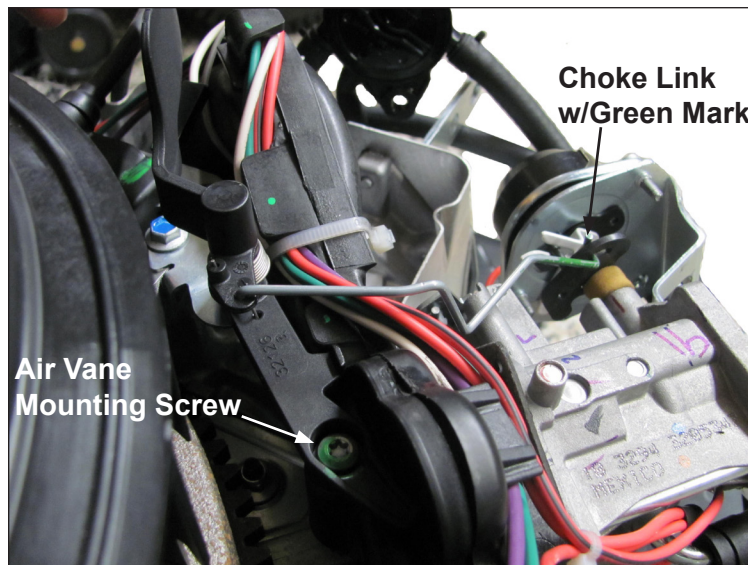

Figure 2. Choke Link 32 079 08-S and Air Vane Detail. (Air Cleaner Assembly Removed for Clarity.)
*NOTE: The 32 079 08-S choke link is identified by a “Green” paint mark and is slightly (0.067”) shorter. Implemented as running change and is already contained on many units. (See Figure 2.)